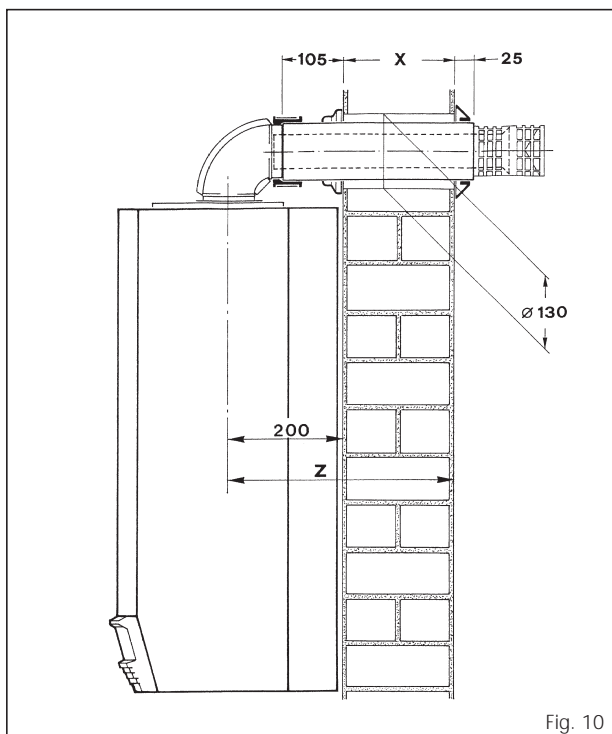

Fig. 10
- Determine whether an extension duct is required with reference to the Z dimension shown in figs. 10 - 11 - 13. Alternatively wall thickness information is given in Table 5.
Rear flue outlet (Only - fig. 10)